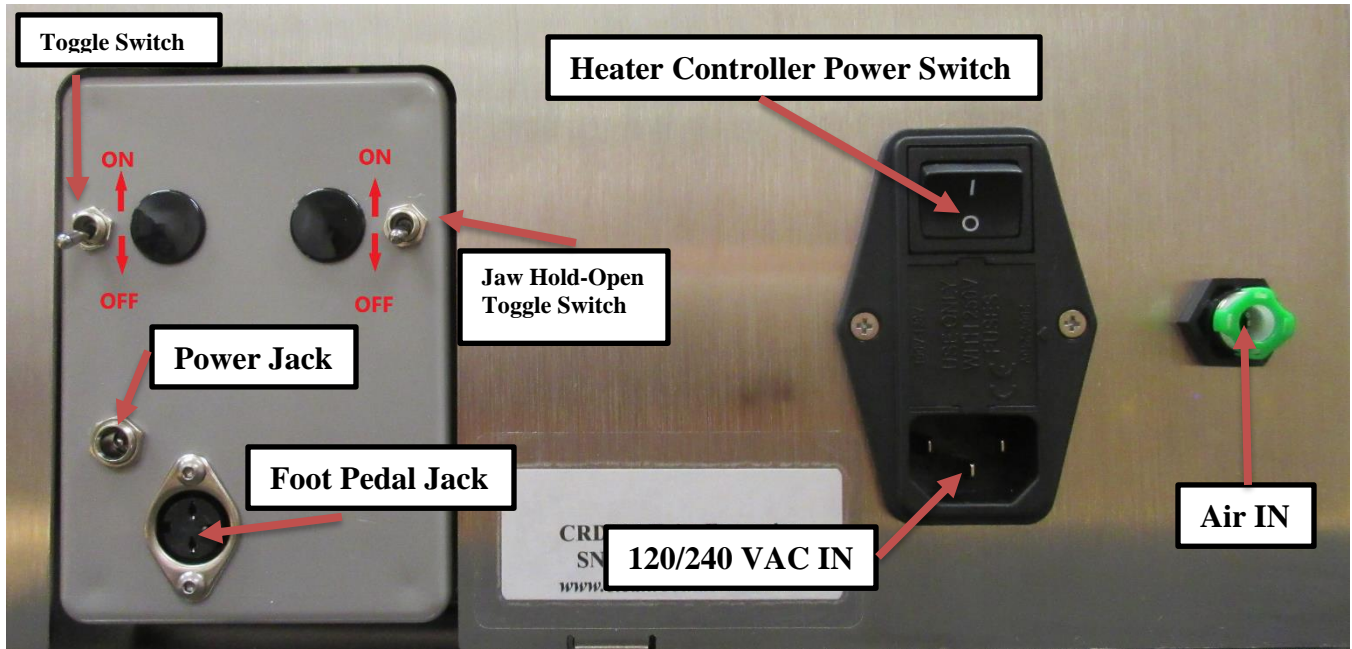

Figure 2.3.1
- Connections on the CRD216SS are simple. Refer to **Figure 2.3.1** below when making all connections to the back panel.
- With A/C power and compressed air attached to the expander, actuate the electric foot switch which will activate the expander. Adjust the expander lower jaw to the position you want using the **Thumb Wheel Knob**. Note that the jaws may be set to remain in the “open” position using the toggle switch noted in **Figure 2.3.1**, and triggering the foot pedal. Make sure the toggle switch is returned to the “off” position, or the jaws will remain open.